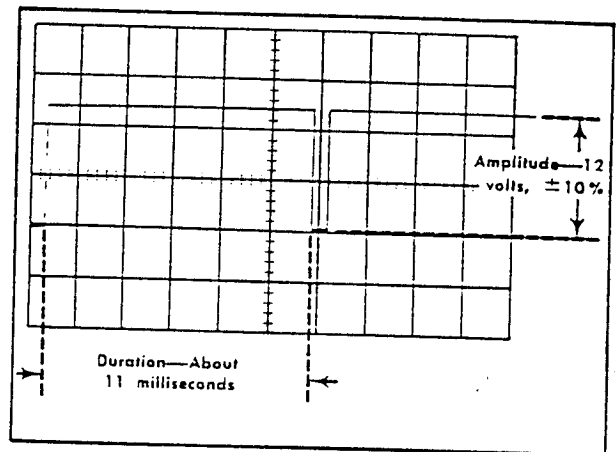

Fig. 6-63. Typical crt display when checking gate amplitude and duration (vertical deflection, 5 volts/division; sweep rate, 2 milliseconds/division).
- c. Check—A GATE output signal +12 volts in amplitude,  $\pm 10\%$  (see Fig. 6-63). Gate duration same as A Sweep.
- d. Set the HORIZ DISPLAY switch to DELAYED SWEEP (B).
- f. Check—B GATE output signal +12 volts in amplitude,  $\pm 10\%$  (see Fig. 6-63). Gate duration same as B Sweep.